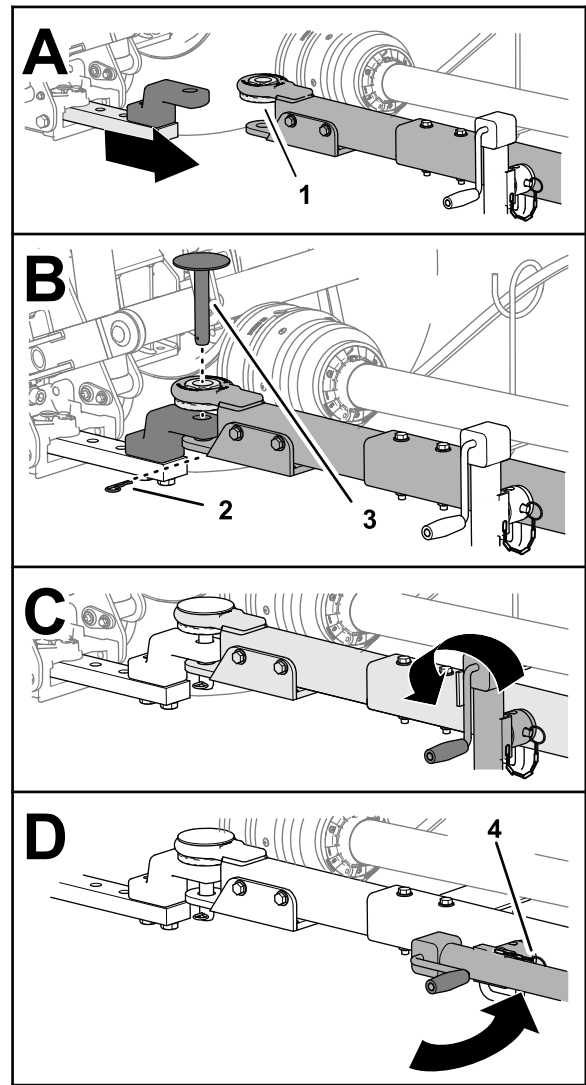

Figure 23
- If your mower has a pin tow bar, insert the hitch pin through the holes in the tow bar and drawbar and secure the pin with the hairpin (Figure 23).
6. Fully raise the jack (Figure 23).
7. Remove the pin that secures the jack to the tow bar, rotate the jack horizontal, and secure the hack to the tow bar with the pin (Figure 23).